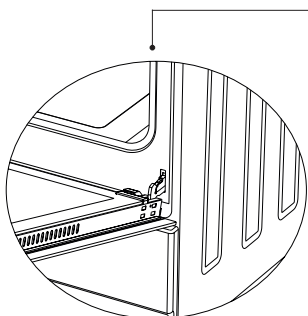

Figure 15.1
1. Completely open the oven door by pulling it to yourself. Afterwards, perform the unlocking process by pulling the hinge lock upwards with the help of a screw driver as shown in figure 15.1.